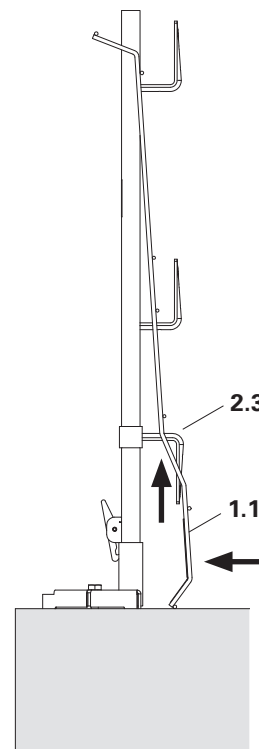

Fig. A2.03b
2. Lift the lower retainer (2.3) and push the toe board up to the Post PP. (Fig. A2.03b)